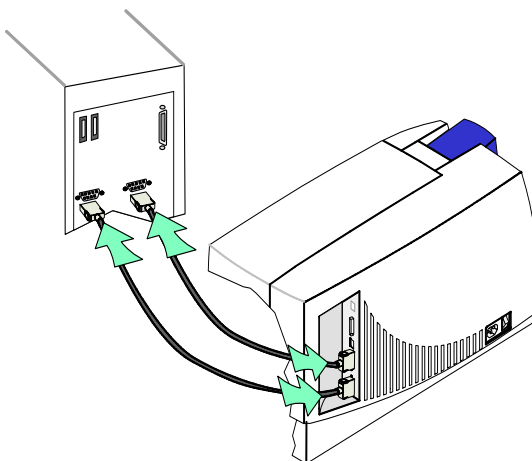

Figure 7-8: Connect the smart card serial cable
- 1 Connect a serial cable to the upper smart card serial port (Figure 7-8) if a contactless smart card module is installed in the printer.
- 2 Connect a serial cable to the lower smart card serial port (Figure 7-8) if a contact module or a contact station is installed in the printer.